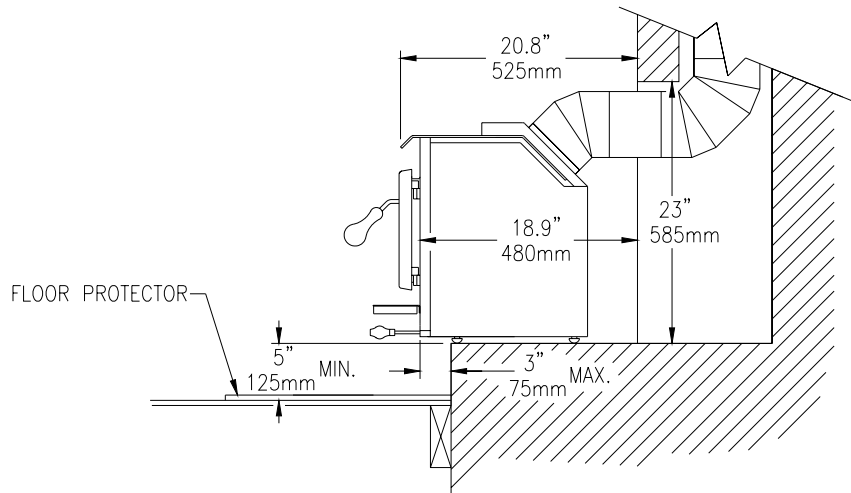

Figure 1.4
2. If the installation of the unit renders the existing damper control inaccessible, it will be necessary to either secure the damper wide open, or remove it entirely. An inaccessible damper which may fall shut later could cause smoke to enter the room. This would be a nuisance as well as a potential health hazard. Figure 1.4 illustrates a typical fireplace installation.